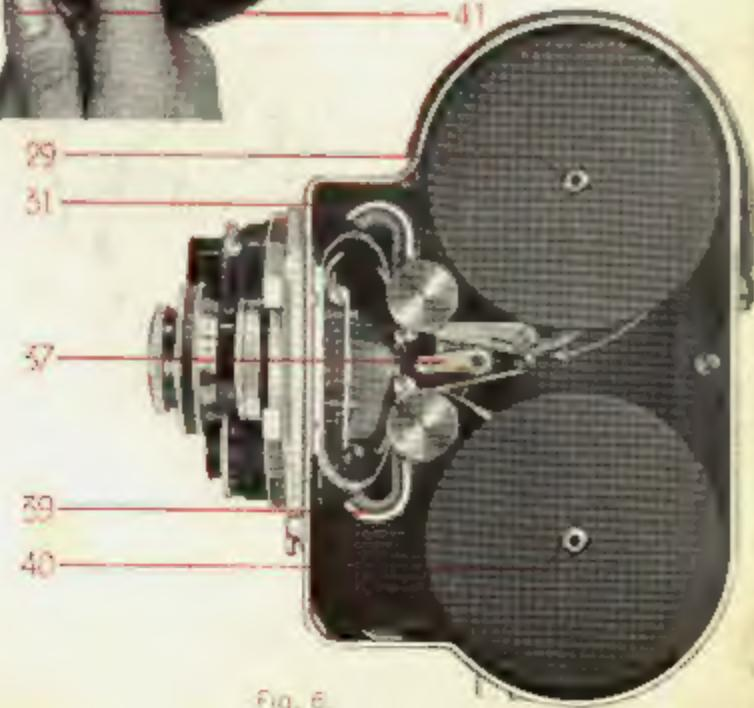

Fig. 6.
- a. Introduce the film into the mechanism through opening 30 shown by arrow (Fig. 6 and 7).
- e. Push up lever 37 so as to bring it back to the horizontal position (see Fig. 6). This will open the loop guides 31 and 39. Set the motor going once again until the end of the film emerging from sprocket 38 is of a length of about 8 to 10 inches.
make sure that all parts of the film transport mechanism are in position, as in Fig. 6.